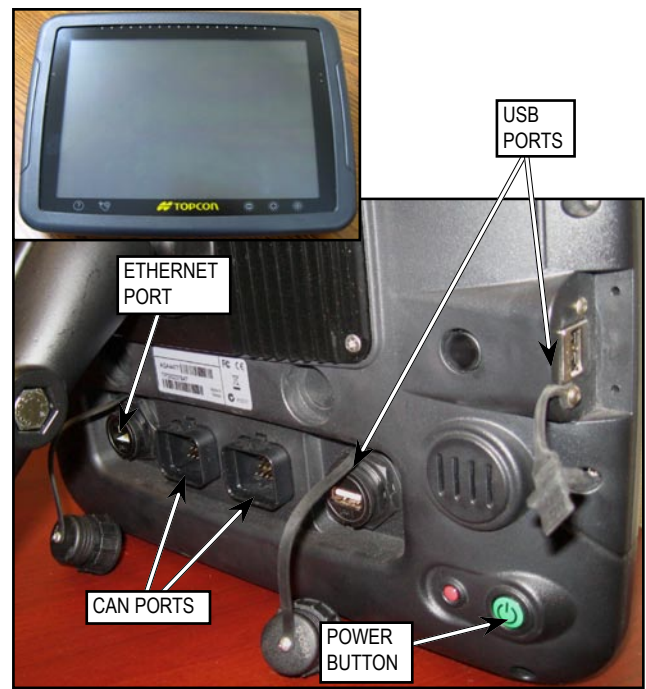
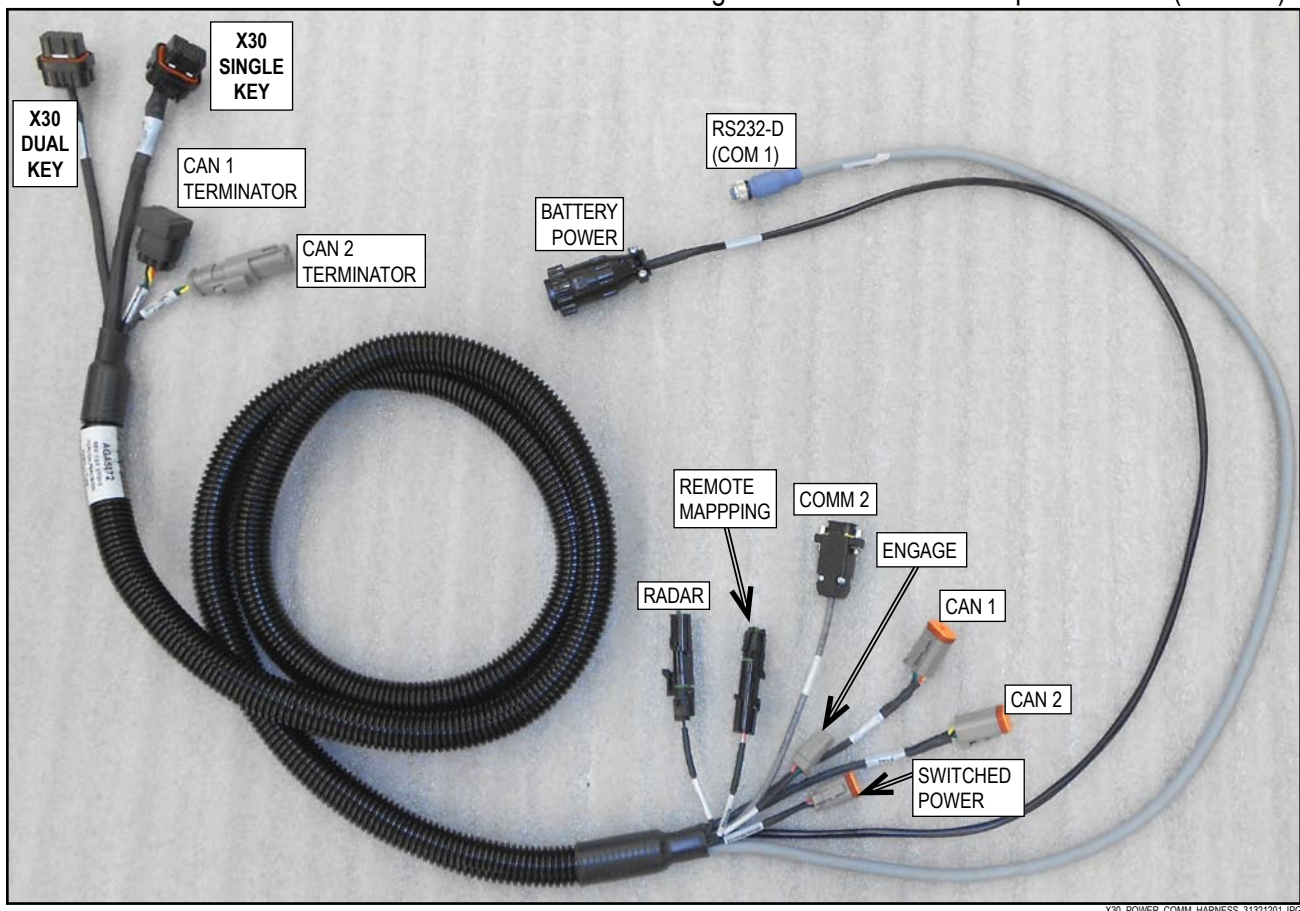

Figure 1 - X30 Console
Figure 5 - X30 Main Harness (3132-12-01)
The X30 console is a Linux based computer system contained within an ABS housing. The console has no internal moving parts and the housing is designed to ensure long life in even the toughest conditions. The console has a 12" LCD touch screen display. Connection ports located on the console's back panel, refer to *Figure 1*.
Refer to *Figure 5*. This harness connects X30 console to power source, ISOBUS, GPS signal, remote steer engage (if unit is equipped with Topcon autosteer).
- a. Connect **X30 Single Key** and **X30 Dual Key** connectors on X30 main harness (3132-12-01, *Figure 5*) to the **CAN** ports on the back of the X30 console, refer to *Figure 1*.
- b. Connect **Battery Power** connector on X30 main harness (3132-12-01, *Figure 5*) to 3-pin AMP auxiliary power connection in the cab (if exists).
- d. Connect **RS232-D (COM 1)** connector on X30 main harness (3132-12-01, *Figure 5*) to GPS adapter harness (3132-04-04, *Figure 12*). DB9 connector on GPS adapter harness (3132-04-04) connects to GPS. Deutsch 3pin plug on GPS adapter harness is not used.
- e. Connect CAN 1 connector on X30 main harness (3132-12-01, *Figure 5*) to connector on ISOBUS in the tractor cab. Refer to images for specific tractor models in *Section 4 - Location of Tractor ISOBUS Connection Point*.
- f. Remove CAN 1 terminator and connect **Can 1 Terminator** connector on X30 main harness (3132-12-01, *Figure 5*) to connector on X30 ISOBUS adapter harness (3132-62).
- h. **COM 2** connector on X30 main harness (3132-12-01, *Figure 5*) can be connected to any device that requires signal from GPS, but is not directly connected to GPS.
- i. Connectors on X30 main harness (3132-12-01, *Figure 5*) labeled **Radar**, **Remote Mapping**, and **CAN 2** are not used.